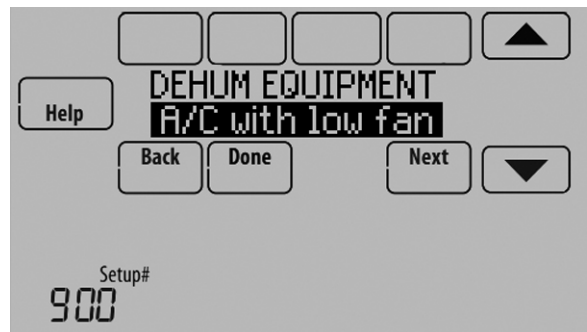

Fig. 145.
1. Select the Dehumidification Equipment in ISU 900. See Fig. 145.